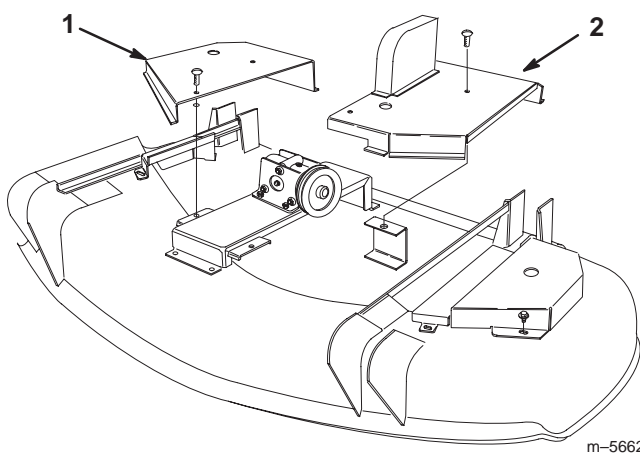

Figure 31
1. Loosen the fasteners holding the left and right center deck covers and remove both center deck covers (Fig. 31).
5. Install both center deck covers and secure with fasteners (Fig. 31).